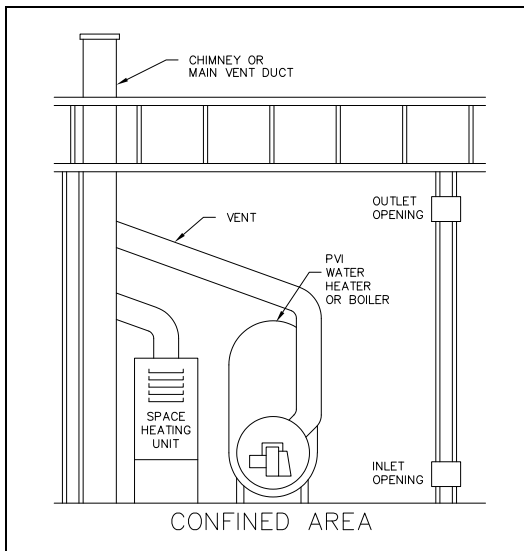

FIGURE 4 - Equipment located in confined spaces; all air from outdoors.
1. If air is taken directly from outside the building (see Figure 4):